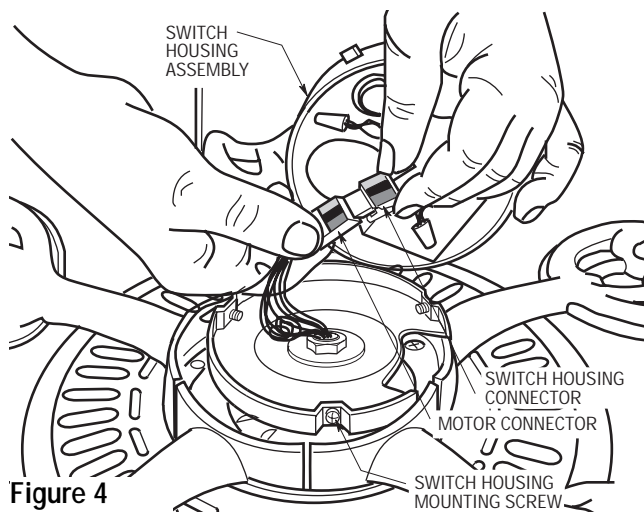
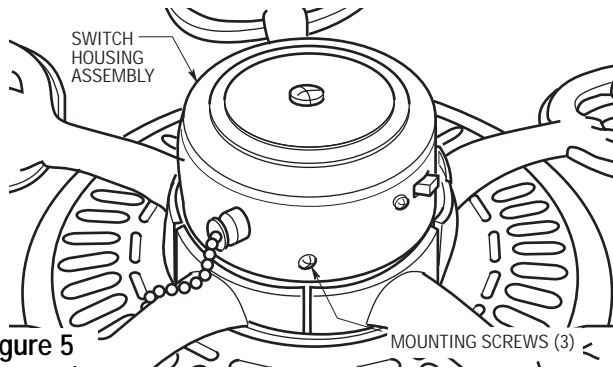

Figure 4
Figure 5
- 10. Engage the connector of the switch housing assembly with the motor connector (Figure 4). The two connectors are keyed and color-coded and must be mated correctly (color-to-color) before they can be engaged. Make sure the connector latch closes properly.
- 11. Remove the three switch housing mounting screws (Figure 4) from the switch housing plate. Position the switch housing assembly on the switch housing plate and align the holes in the switch housing assembly with the holes in the plate. Secure the switch housing assembly by installing the three mounting screws (Figure 5).